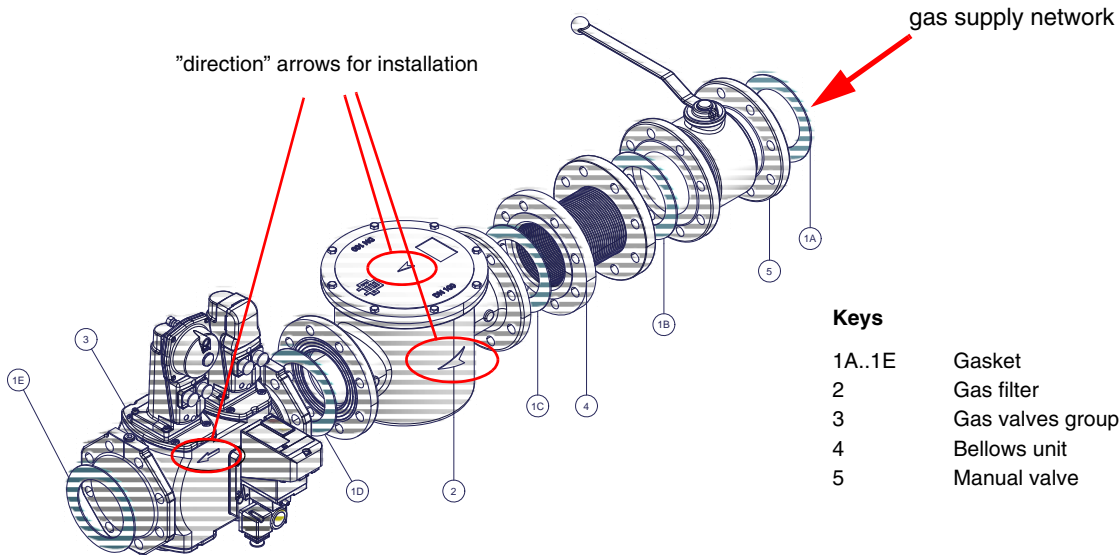

Fig. 2 - Example of gas train
- 1-b) in case of flanged joints: place a gasket (no. 1A..1E - Fig. 2) between the elements